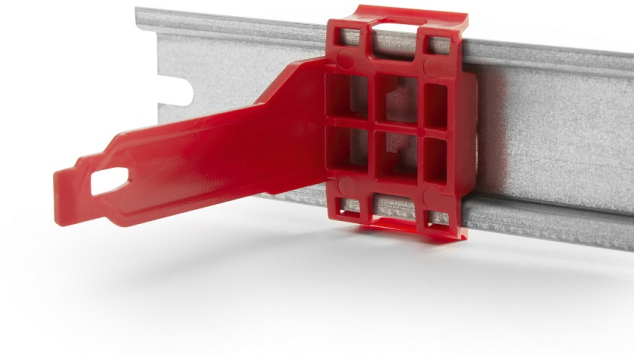

Figure 2: The mounting clip mounted on a DIN Rail.
1. Mount the mounting clip onto the DIN Rail by firmly snapping it into place, see Figure 2 on Page 9.